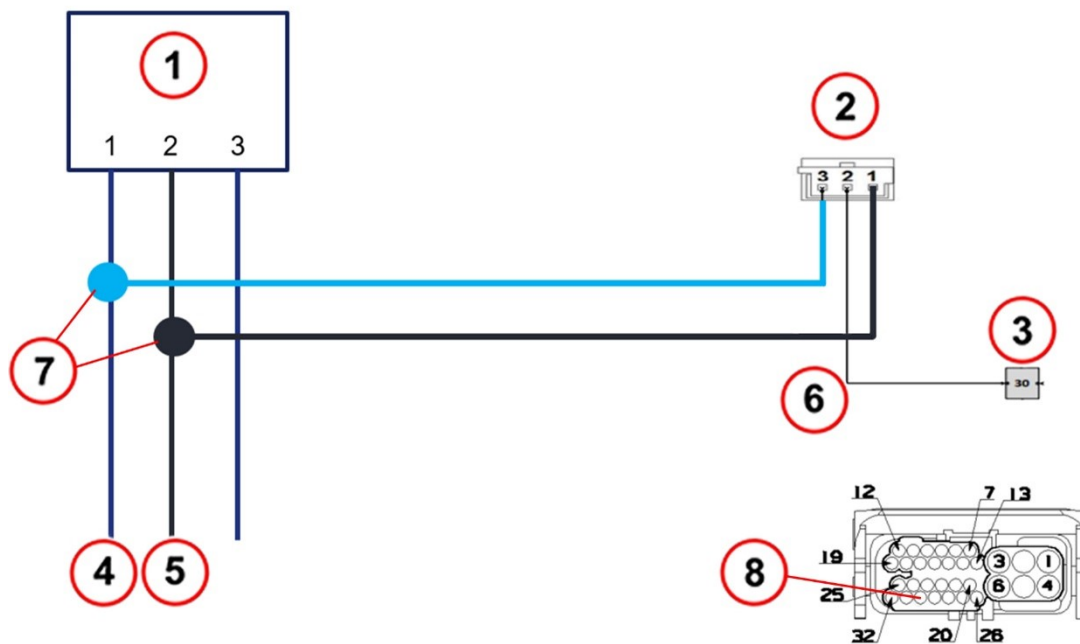

Fig. 3
4. On the 3-way connector cables of the rain sensor/dusk sensor, make two junctions according to the cable colors in the diagram (Fig. 3) .
5. Route the grey-black cable from pin 2 of the humidity sensor parallel to the cable on the vehicle (windscreen area, front left pillar, under the dashboard) (Fig. 3) .
6. Disconnect the 32-way junction located under the dashboard on the left side (Fig. 3) .
7. Remove the white plug from pin 30 of the vehicle wiring harness side connector (Fig. 3) .
8. Insert the terminal from the black-grey jumper into pin 30 and reconnect the 32-way junction (Fig. 3) .